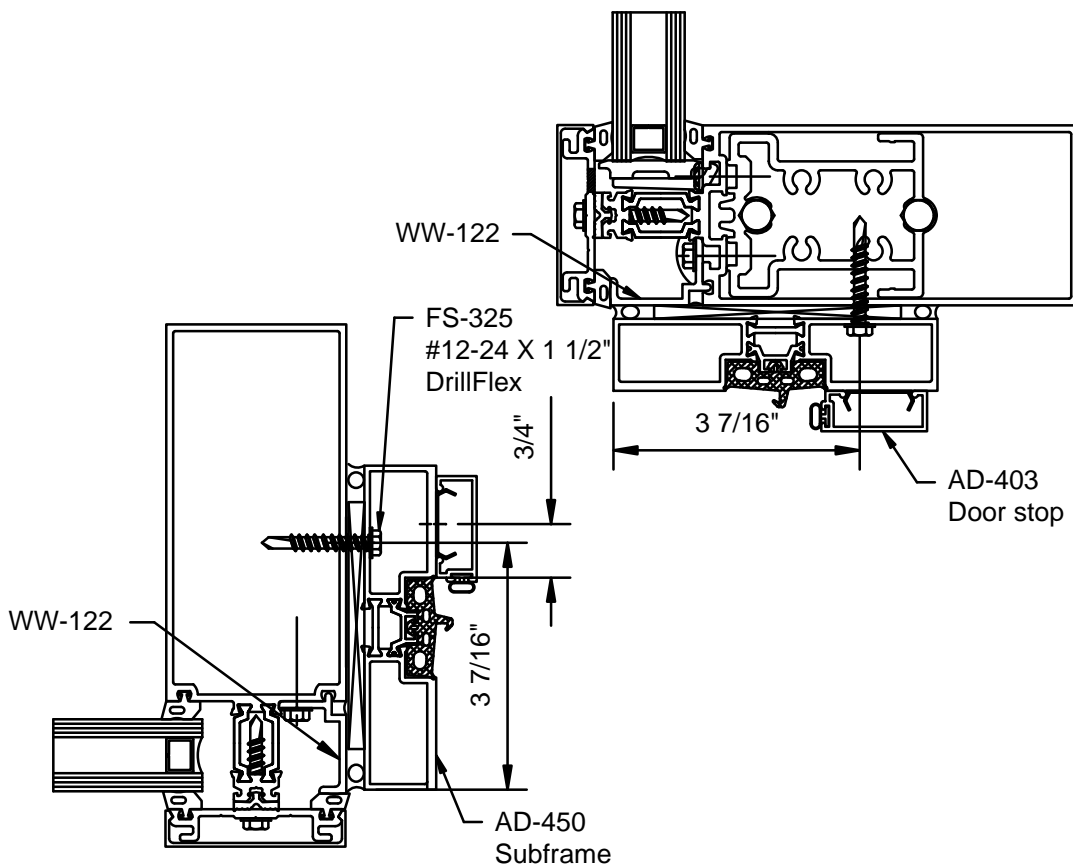

FIGURE 42
- C.3.1 Attach AD-204 threshold clip to bottom of each subframe jamb with two (2) FS-22 #10 x 1/2" Flat Head Screws
- C.3.3 Bed subframes in sealant and anchor to curtain wall framing members with FS-325#12-24 x 1 1/2" Drillflex at 18" on center. Seal joint between jamb and header subframes. Seal also tops of jamb subframe. SEE FIGURE 42